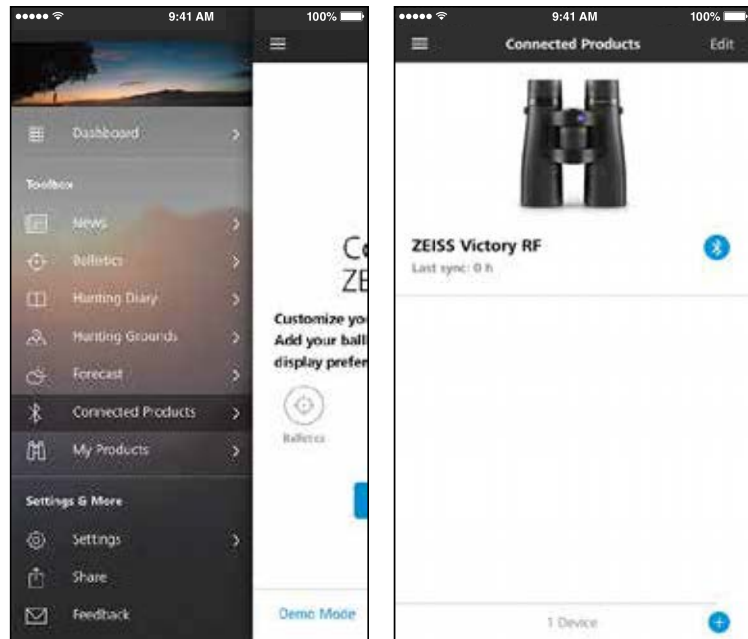

Fig. 13
7. Next, select which data you see through the VRF when you press the **"RANGE"** button (Fig. 13). From the ZHA Dashboard, select the **"Connected Products"** tab. While there, select the Bluetooth icon button, which looks like this: